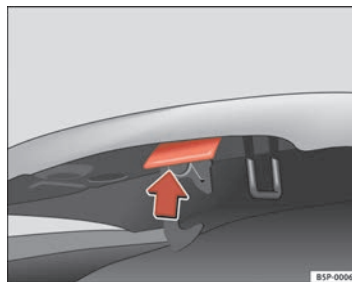

Fig. 168 Release catch under the bonnet
- Press the release catch under the bonnet upwards ⇒ **fig. 168**. This will release the arrester hook under the bonnet.